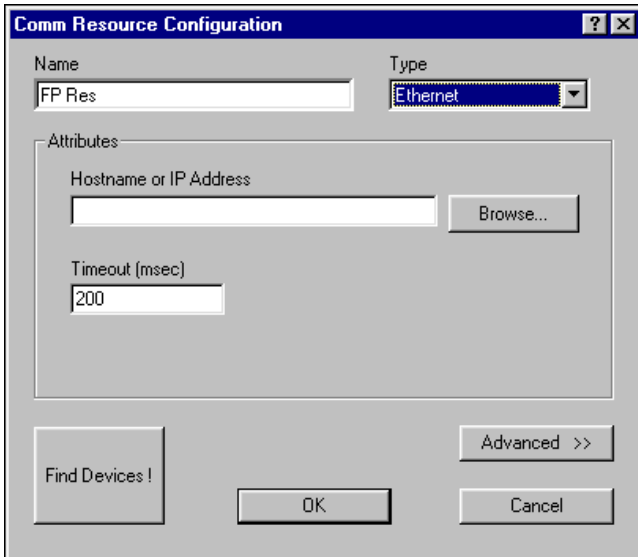

Figure 3-4. Comm Resource Configuration Dialog Box
3. Add a communications resource to the Device Network Hierarchy (DNH) in the FieldPoint Explorer. To add the resource, click on the + sign next to **IA Server with OPC** in the DNH frame to expand the view. Then, right-click on **FieldPoint** and select **Add a comm resource to this server**. The **Comm Resource Configuration** dialog box appears, as shown in Figure 3-4.